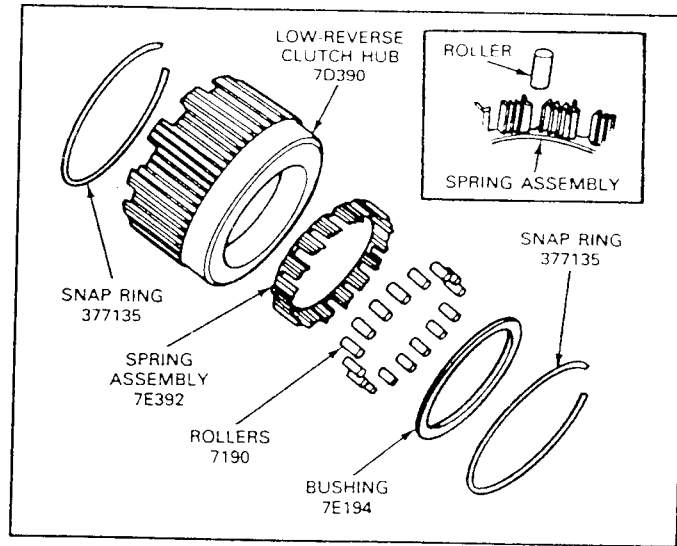

FIG. 56 One-Way Clutch Disassembled
1. Remove the snap ring and bushing from the rear of the low-reverse clutch hub (Fig. 56).
4. Install a roller into each of the spring assembly compartments (Fig. 56).
6. Install the remaining snap ring at the rear of the low-reverse clutch hub to secure the assembly (Fig. 56).